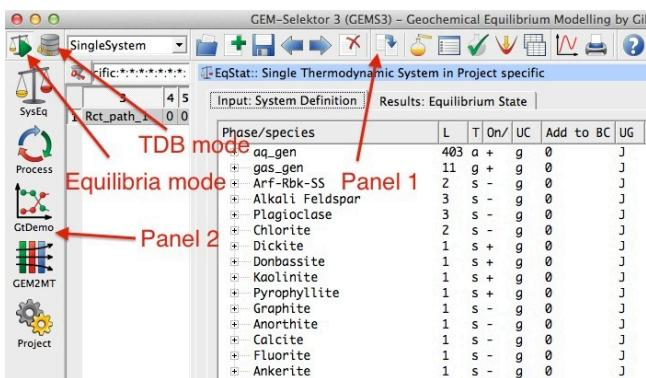

Figure 2.1: GEMS user interface showing the ‘Equilibria Calculation’ and ‘Thermodynamic Database’ modes.
- Open GEMS and choose the project in the **Equilibria Calculation Mode**. The user interface is shown in Figure 2.1. Panel 1 permits to create new records and run the program for calculations. Panel 2 gives you different calculation options.
- Finally, clone your existing Rct_path_1 chemical system by selecting it and choosing **Clone a new record from this one** in Panel 1 (Fig. 2.1). Change the name to Rct_path_2 and the temperature to 300 °C in the pop up window, and recalculate the equilibrium of this system.
- Select the **Process** option in Panel 2 (Fig. 2.1).